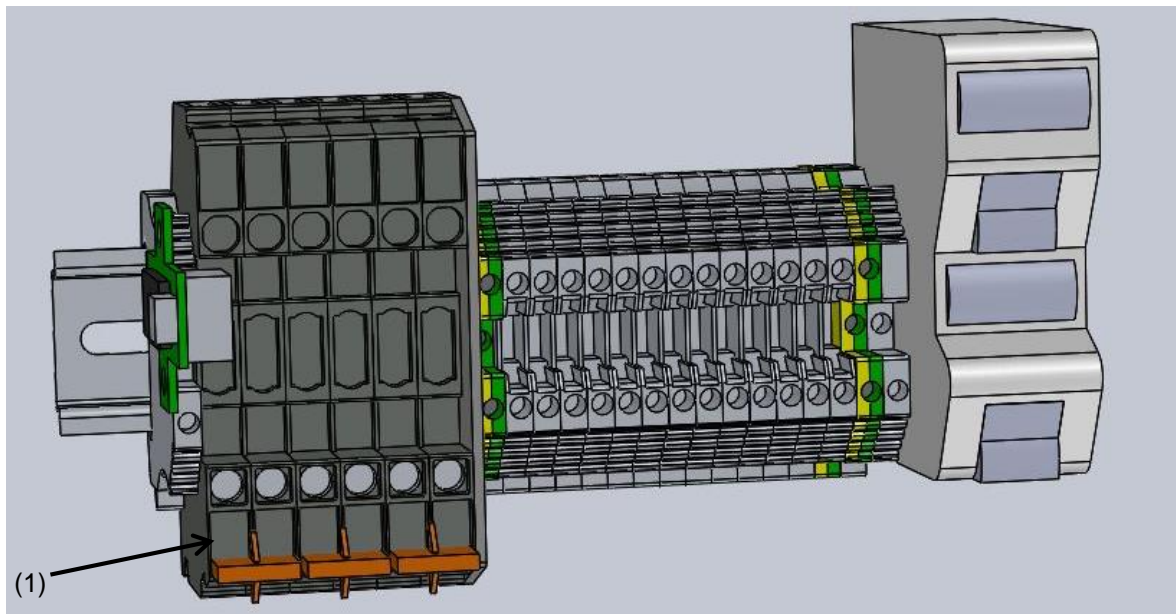

Figure 13 X11 Terminal block, CT opened in this figure.
Current transformers are connected to terminal block X11:1 – X11:6 in the bottom of the cabinet (see Figure 11). It is possible to shorten the CT with the switching jumper (1) mounted in the lower part of the terminal block (see Figure 13). Observe that the CT is shorted by default.